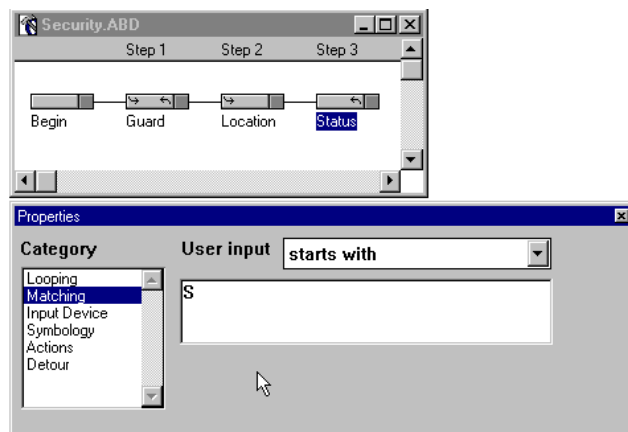

Figure 3-50 Matching Property - Starts With S
44. Click in the edit box and enter an S (Figure 3-50). Any entry that starts with an S is now an acceptable entry for the “Status” Handler.